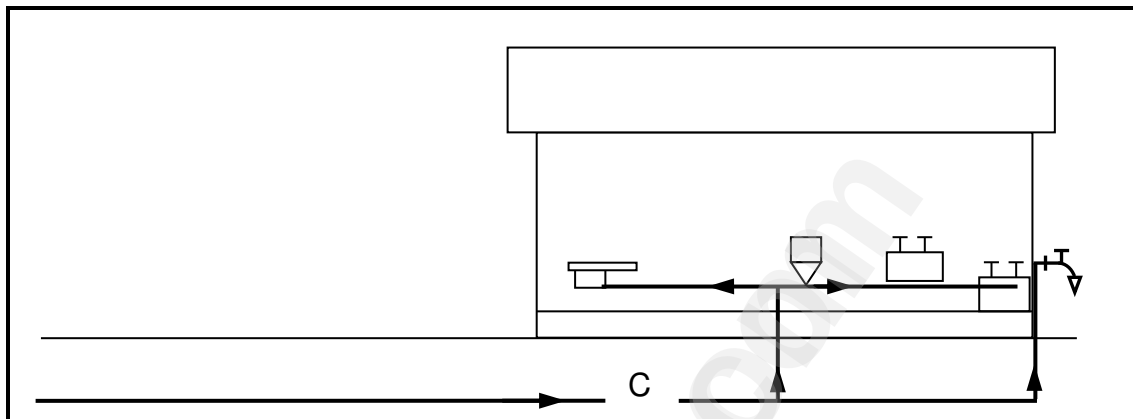

FIGURE 5.6
- 5.6 FIGURE 5.6 shows the front elevation of the cold-water supply from the water meter to a house on scale 1 mm = 100 mm. The main cold-water pipe has a diameter of 22 mm and the branch pipe has a diameter of 15 mm. Study the drawing and determine the material needed for the plumbing installation by completing the table.